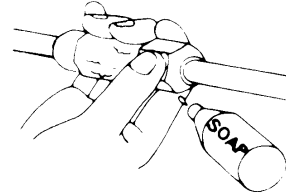

Fig. 12
- a) Check gas leakage of all joints with liquid soap. Fig. 12